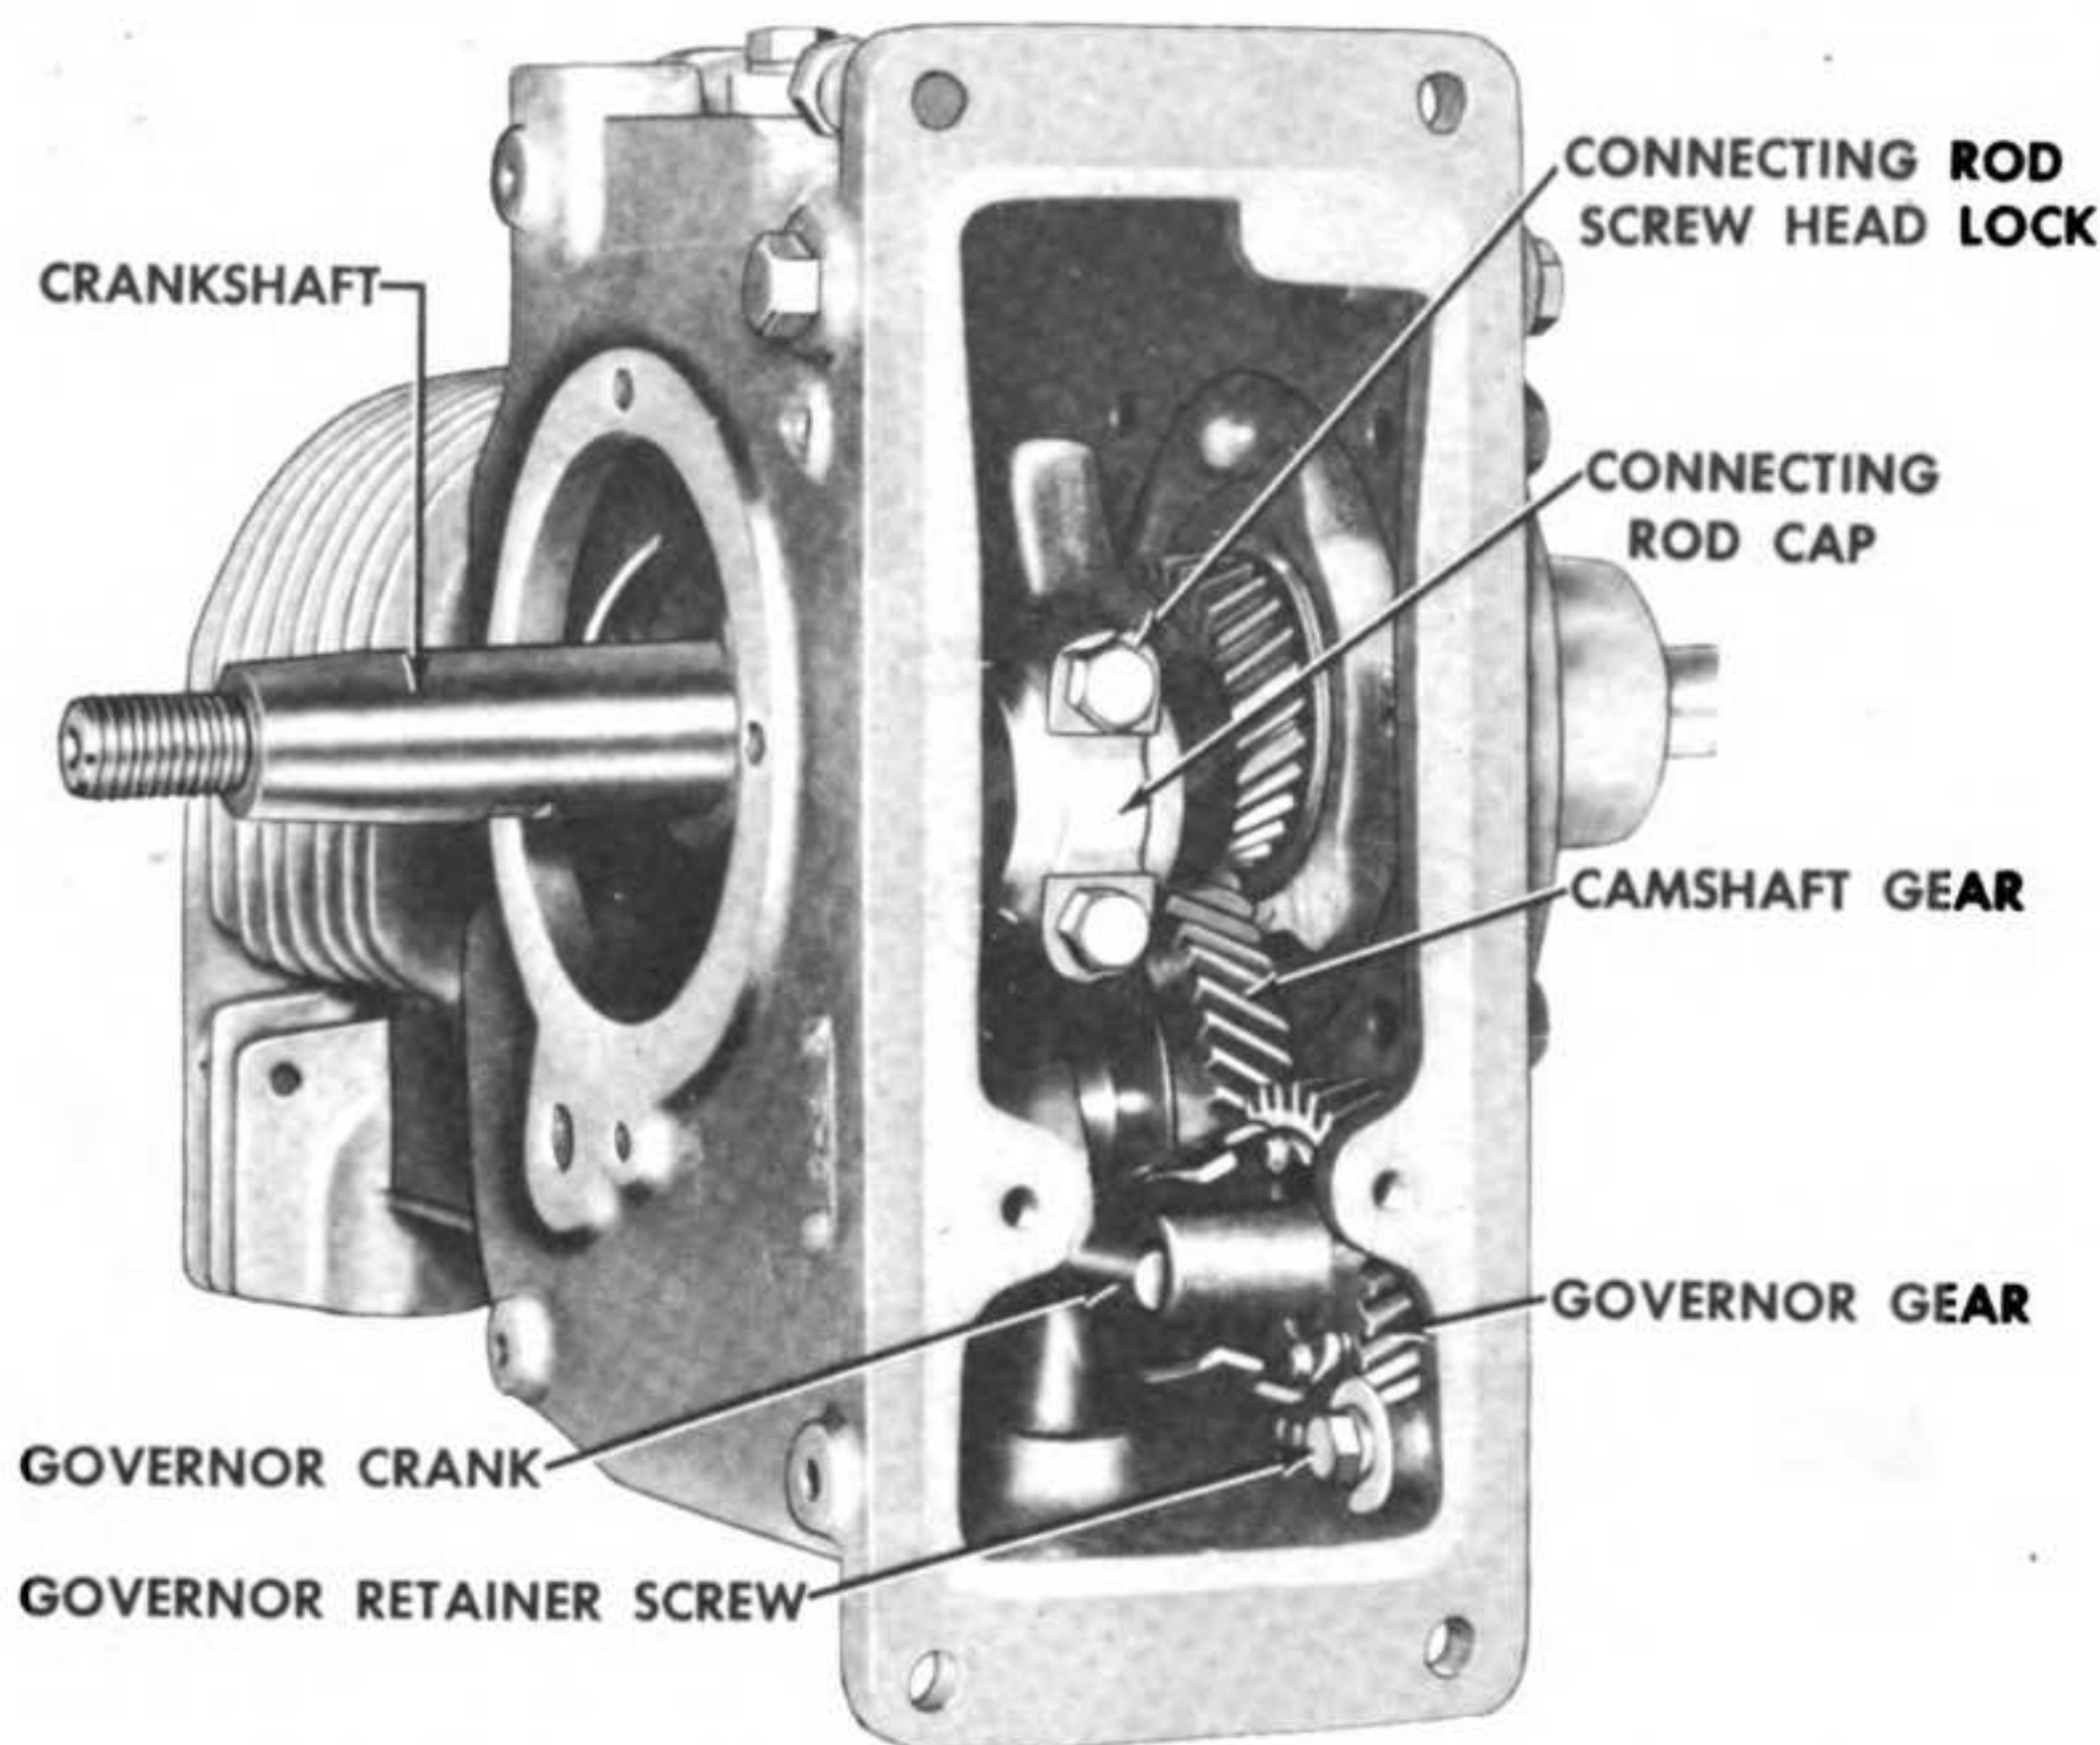

Figure 37—Underside of Cylinder Assembly, Oil Pump Removed
(1) Bend down the connecting rod screw locks and remove the connecting rod capscrews. (See figure 37.) Lift off the connecting rod cap.
(2) Push the connecting rod and piston assembly out the top of the cylinder assembly.
(3) Use a piston ring spreader to remove piston rings.
(4) Remove the piston pin locks, freeing the piston pin, piston, and connecting rod.
(1) Loosen the governor retainer screw, lockwasher and flat washer. (See figure 37.)